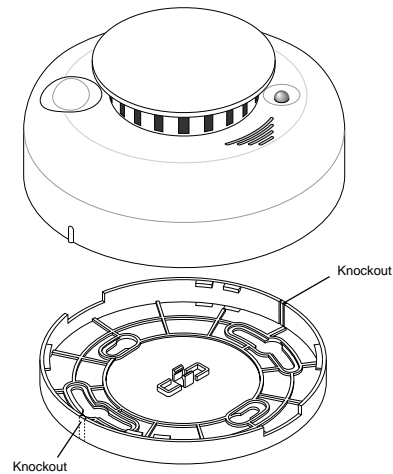

Figure 3 - Base Lock Knockouts
1. If you are using the detector/base lock, remove the two knockouts on the mounting base. See Figure 3.